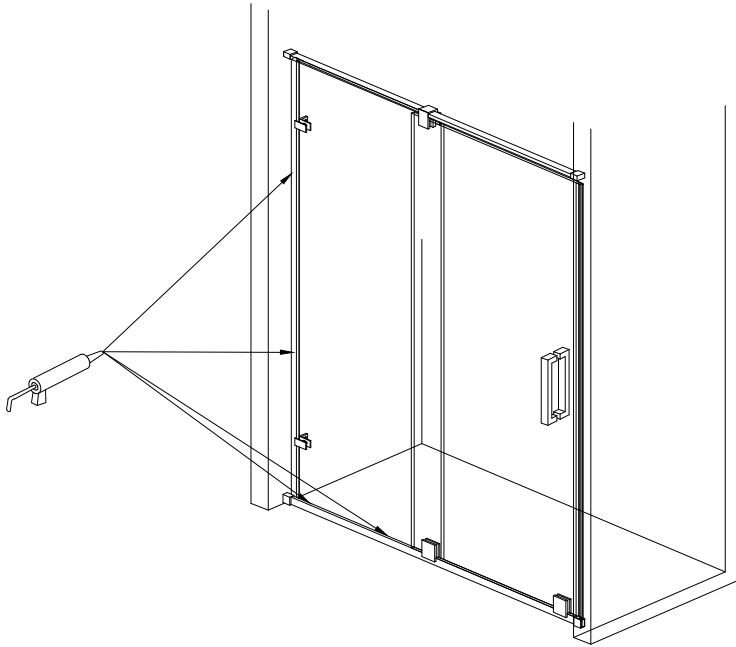

FIG.13
1. Apply clear silicone caulking to the inside between the wall and side seal strip. [SEE FIG.13].